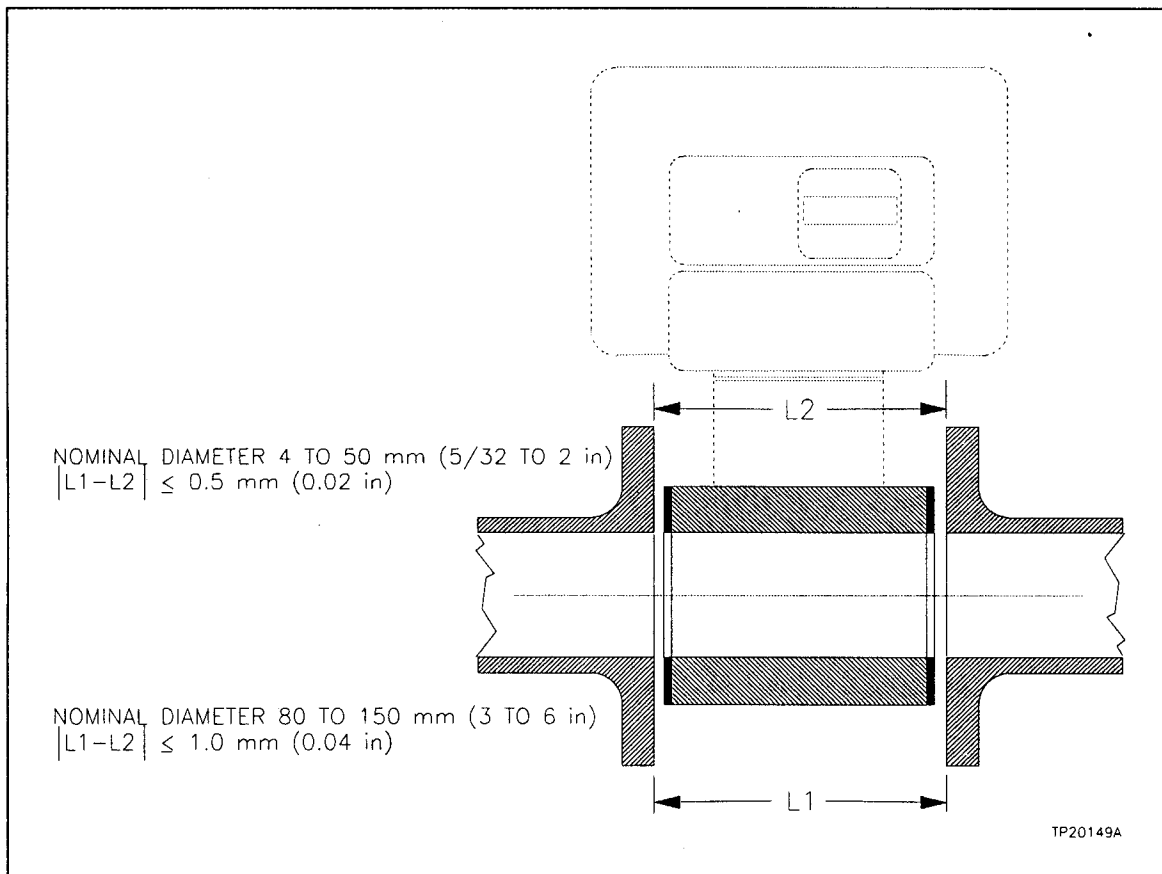

Figure 3-10. Flange Face Parallelism
1. It is mandatory to use the centering devices included in the mounting kit to align the measuring tube with the piping. The number of centering devices depends on the measuring tube dimensions and weight, and the type of flanges. See Figure 3-10 for an illustration of flange face parallelism.